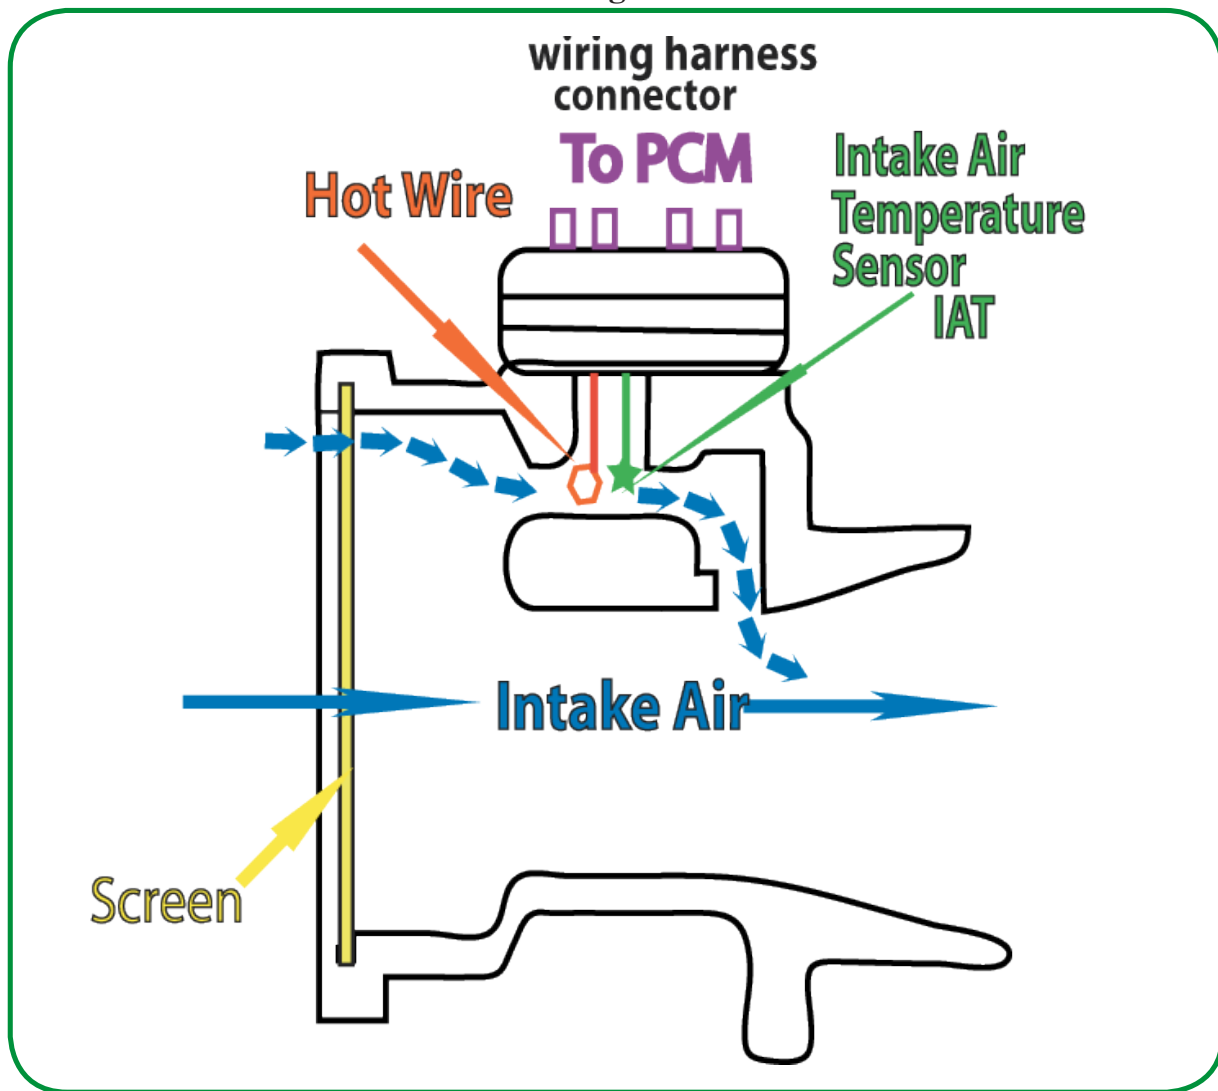

Fig. 9-17. An example of another design of a hot wire mass air flow sensor.
- As always, the technician must check the maintenance repair manual for the specifications of year/make/model you are working on. Refer to figure 9-17.